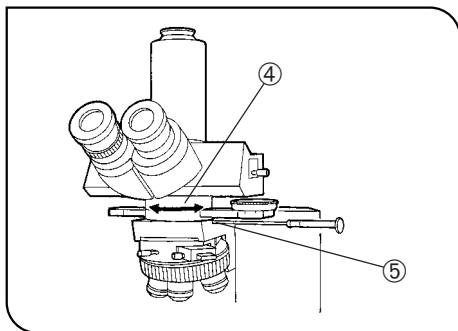

Fig. 20
4. Slightly loosen the intermediate adapter clamping screw ⑤. (Fig. 20)
5. While observing the field of view, rotate the intermediate attachment for orthoscopic observation (U-OPA) ④ until complete extinction is obtained. At this point, tighten the intermediate attachment clamping screw ⑤. (Fig. 20)